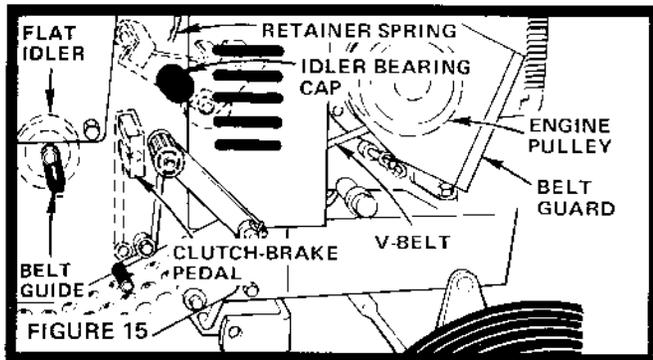

FIGURE 15
A new V-Belt may stretch after the first few hours of operation. If Clutch-Brake Pedal, in drive position (Fig. 15), is considerably to the front or rear of the vertical position, the V-Belt is out of adjustment and must be re-tensioned.
- a. Idler Bearing (Fig. 15)